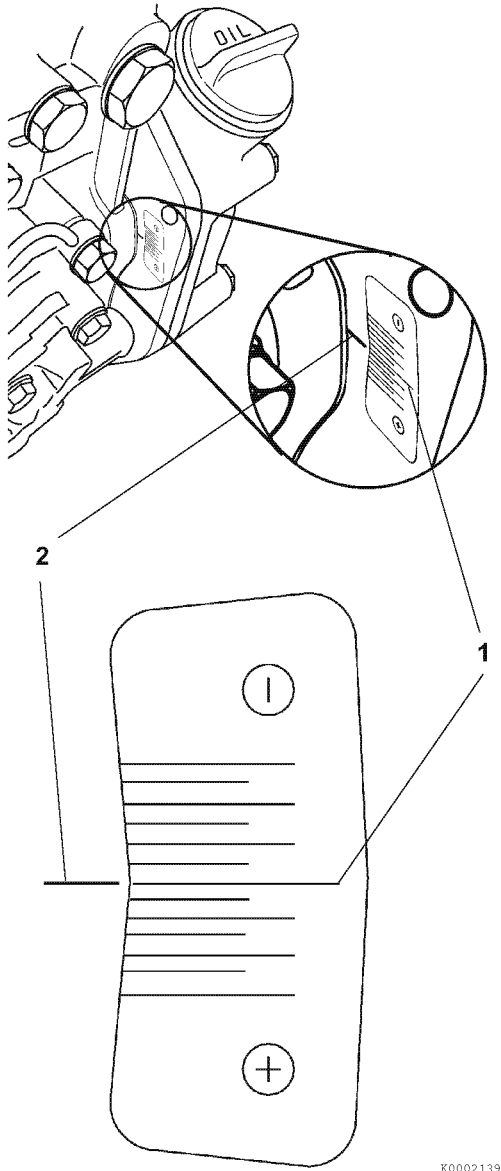

Figure 7-28
- Reinstall the timing grid sticker, provided with the new fuel injection pump, onto the back of the gear case/front plate (Figure 7-28). Align the “standard mark” (1, Figure 7-28) with the reference mark (2, Figure 7-28) made on the gear case during disassembly.